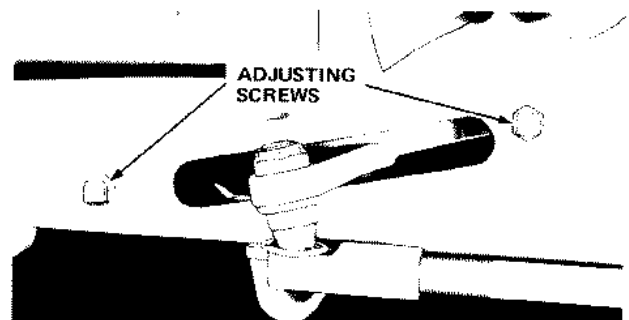

Figure 18
A. You will find a slot in the right hand frame at the rear of the steering drag link where it connects to the steering gear. (See Figure 18.) Near each end of this slot is a square head setscrew, with lock nut, inserted in the frame.